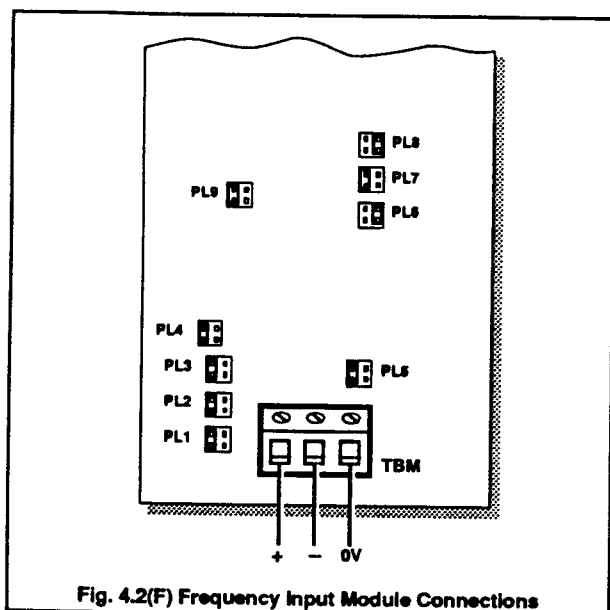

Fig. 4.2(F) Frequency Input Module Connections
Make connections and links as detailed in Fig. 4.2(F) and Table 2(F). The module is for frequency inputs only and Input Type FREQ should be selected – see Section 8.4.
Ensure that the Signal Input links are in the correct positions for the required input type for the channel - see Fig 4.2 of the main manual.